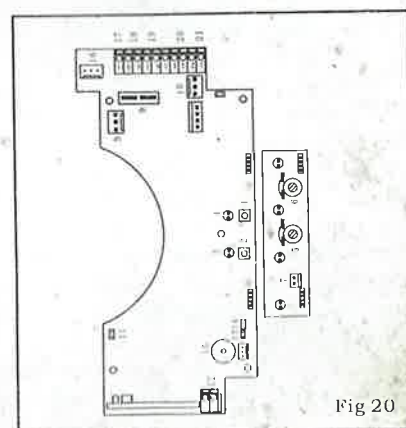

Fig 20
9.1 An optional external Alarm device could be added on by connecting to Terminal 5 and 10 (see Fig. 20) on the main connection terminal. For more details on how to connect, please refer to the installation instruction inside the Alarm packing.
9.3 An optional backup battery could be added on by connecting to the 3-pin Terminal (see Fig 20) above the main connection terminal. For more details on how to connect, please refer to the installation instruction inside of the backup battery packing.